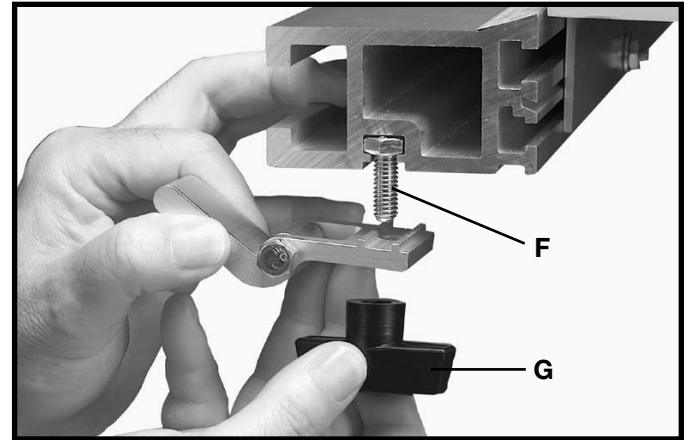

Fig. 82
6. To attach rail stop to unifence see Fig. 82.
1. The Rail Stop Assembly Fig. 82, can be adjusted to any number of positions along the guide rail providing a quick stop setting for the Unifence body by loosening knob (G) and sliding the stop along the rail to the desired position and re-tighten.
3. If flip stop does not retract fully the bolt (F) Fig. 82, may have to be repositioned in the rail slot to allow the flip stop to retract fully. If bolt (F) needs to be repositioned, just slide the bolt out of the rail and turn the head of the bolt one third of a turn (one flat) and slide back into rail, repeat this until the bolt is in the right position for the flip stop to retract fully. Fig. 82A.